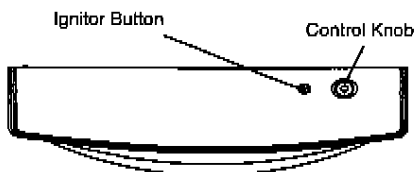

Figure 18. Control Knob and Ignitor Button Location
4. Wait five (5) minutes to clear out any gas. Then smell for gas, including near the floor. If you smell gas, **STOP!** Follow "B" in the safety information, page 11, column 1. If you don't smell gas, go to the next step.
5. Turn control knob counterclockwise  to the PILOT position. Press in control knob for five (5) seconds (see Figure 18).
**Note:** If pilot goes out, repeat steps 3 through 7. This heater has a safety interlock system. Wait one (1) minute for system to reset before lighting pilot again.